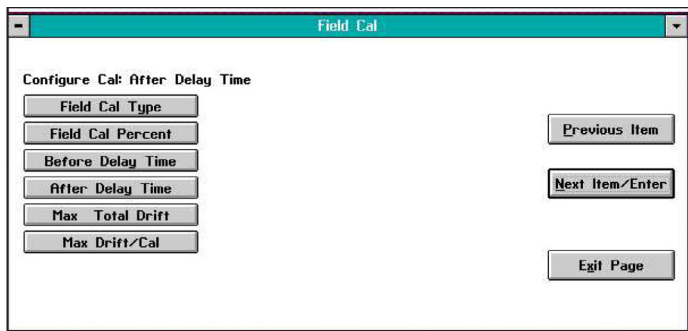

Figure 17: Configure cal window
4. In the Configure Cal window (shown in *Figure 17* on *page 21*), click on the Field Cal Type button.
The Configure Cal option enables you to change the field calibration type and various calibration parameters. Clicking on the Configure Cal button opens a window like that shown in *Figure 17* below.